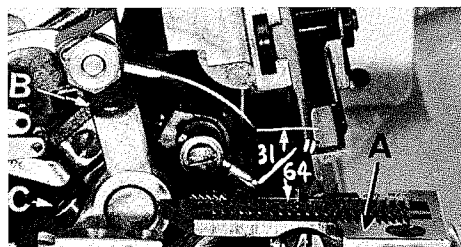

Fig. 3
With throat plate assembled in position, needles should center in the front end of needle slots. When needles are at high position, needle points should be set $31/64$ inch above throat plate (A, Fig. 3). To align needles or set the height above the throat plate, move needle driving arm (B, Fig. 3) by loosening clamp screw (C). Remove throat plate, after needle has been set properly and clamp screw (C) has been tighten.